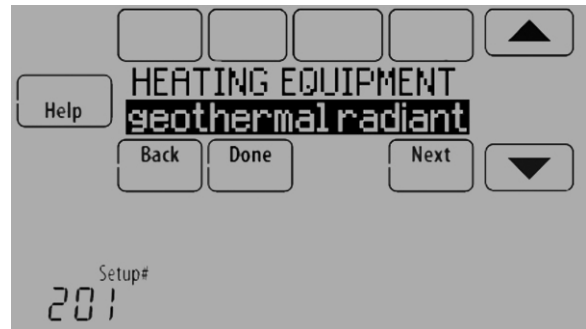

Fig. 169.
1. Select Geothermal Radiant Heat as shown in Fig. 169.